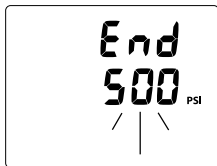

Fig. 29 - SET END ALARM
**SET END PRESSURE ALARM,** information includes (Fig. 29):